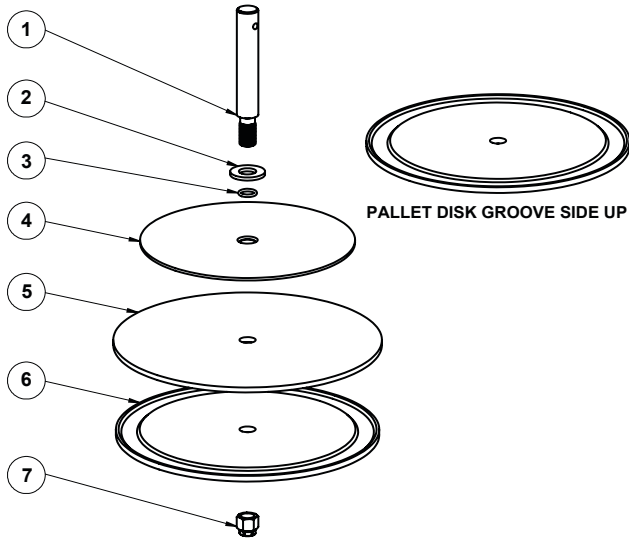

Figure 15. Vacuum Assembly
4. Reassemble the vacuum assembly, spring and cotter key in the reverse order of removal. Replace center assembly into lid (See Section Accessing Spring Capsule Assembly or Center Assembly and follow steps 1 through 4 in reverse order). Ensure the pivot pad is installed flat on top of the center assembly before the spring capsule assembly is attached. See Figure 15 for detailed view of the vacuum assembly.